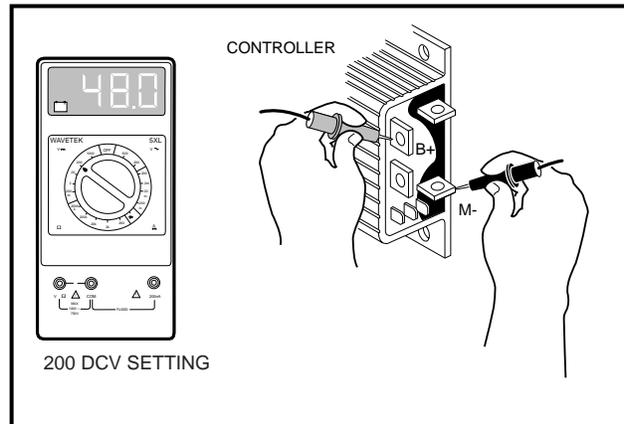

Figure 11-27 Test Output Voltage
- 4.2. Connect the multimeter (set for 200 volts DC) red probe (+) to the controller B+ terminal and the black probe (-) to the controller M- terminal. The multimeter should display approximately 48 volts, which is controller capacitor voltage (**Figure 11-27, Page 11-18**).